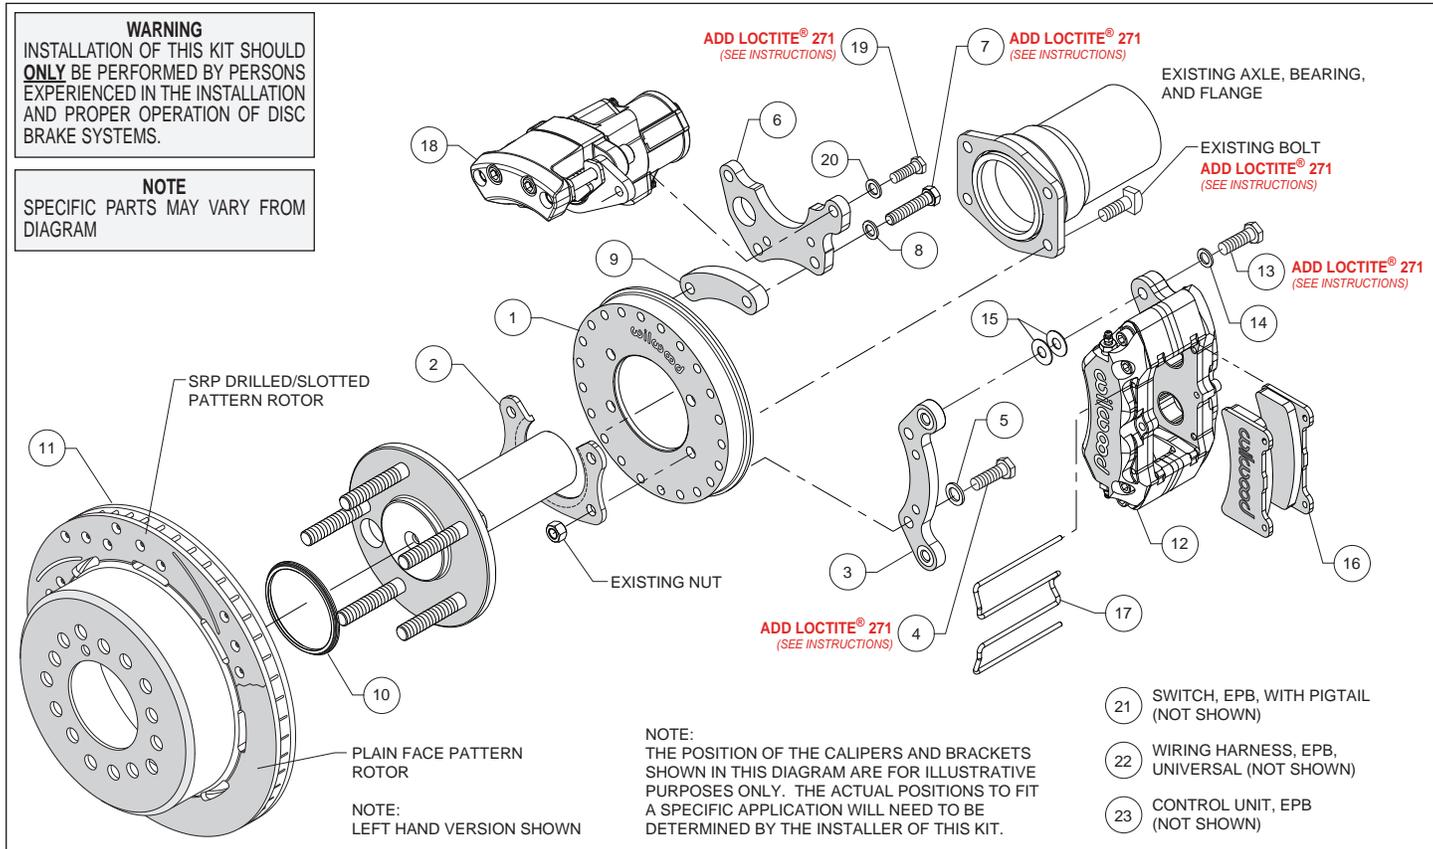
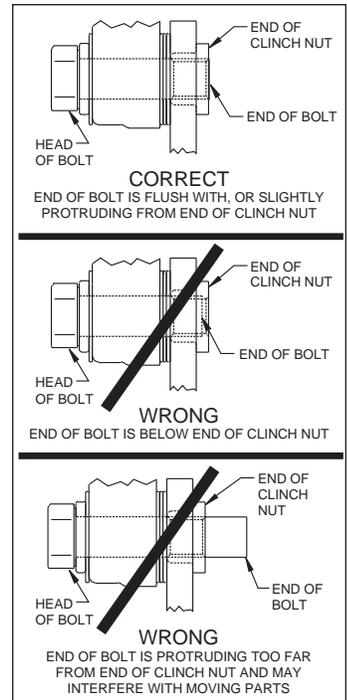

Figure 1. Typical Installation Configuration
Figure 5. Clinch Nut Engagement Diagram
(numbers in parenthesis refer to the parts list, and Figure 1 on the preceding pages): **CAUTION:** All mounting bolts must fully engage clinch nuts. Be sure to check that all bolts are either flush or protruding through flanged side of clinch nut after shimming, Figure 5.
- Orient the backing plate (1) as shown in Figure 1 and Photo 1, and slide it onto the axle housing flange. Ensure the backing plate fits flush against the axle housing flange. Reinstall the axle into the axle housing.
- Install the bearing retainer (2) with the opening pointing upward and the lip facing inward (toward the bearing), as shown in Figures 1 and 4, and Photo 2. Secure retainer and backing plate to the axle housing flange using the Original Equipment Manufacturer (OEM) bolts and nuts, Figure 1 and Photo 3. Apply red *Loctite*® 271 to the OEM bolt threads and torque to OEM specifications.
- NOTE:** Please reference the caution statement at the beginning of the assembly instructions. Remount the service caliper (12) onto the caliper mounting bracket (3) using bolts (13) and washers (14), as shown in Figure 1. Initially place two .035" thick shims (15) on each bolt between the caliper and the bracket, Photo 9. Temporarily tighten the mounting bolts and view the rotor (11) through the top opening of the caliper. The rotor should be centered in the caliper, Photo 10. If not, adjust by adding or subtracting shims (15) between the bracket (3) and the caliper (12). Always use the same amount of shims on each of the two mounting bolts. **NOTE:** The end of each bolt must be flush with or slightly protruding from the head of the clinch nut, as shown in Figure 5. If necessary place spare shims (15) between washer (14) and caliper mounting ear to achieve the proper clinch nut engagement. Once the caliper alignment and clinch nut engagement are correct, remove the bolts one at a time, apply red *Loctite*® 271 to bolt threads, and torque to 40 ft-lb.